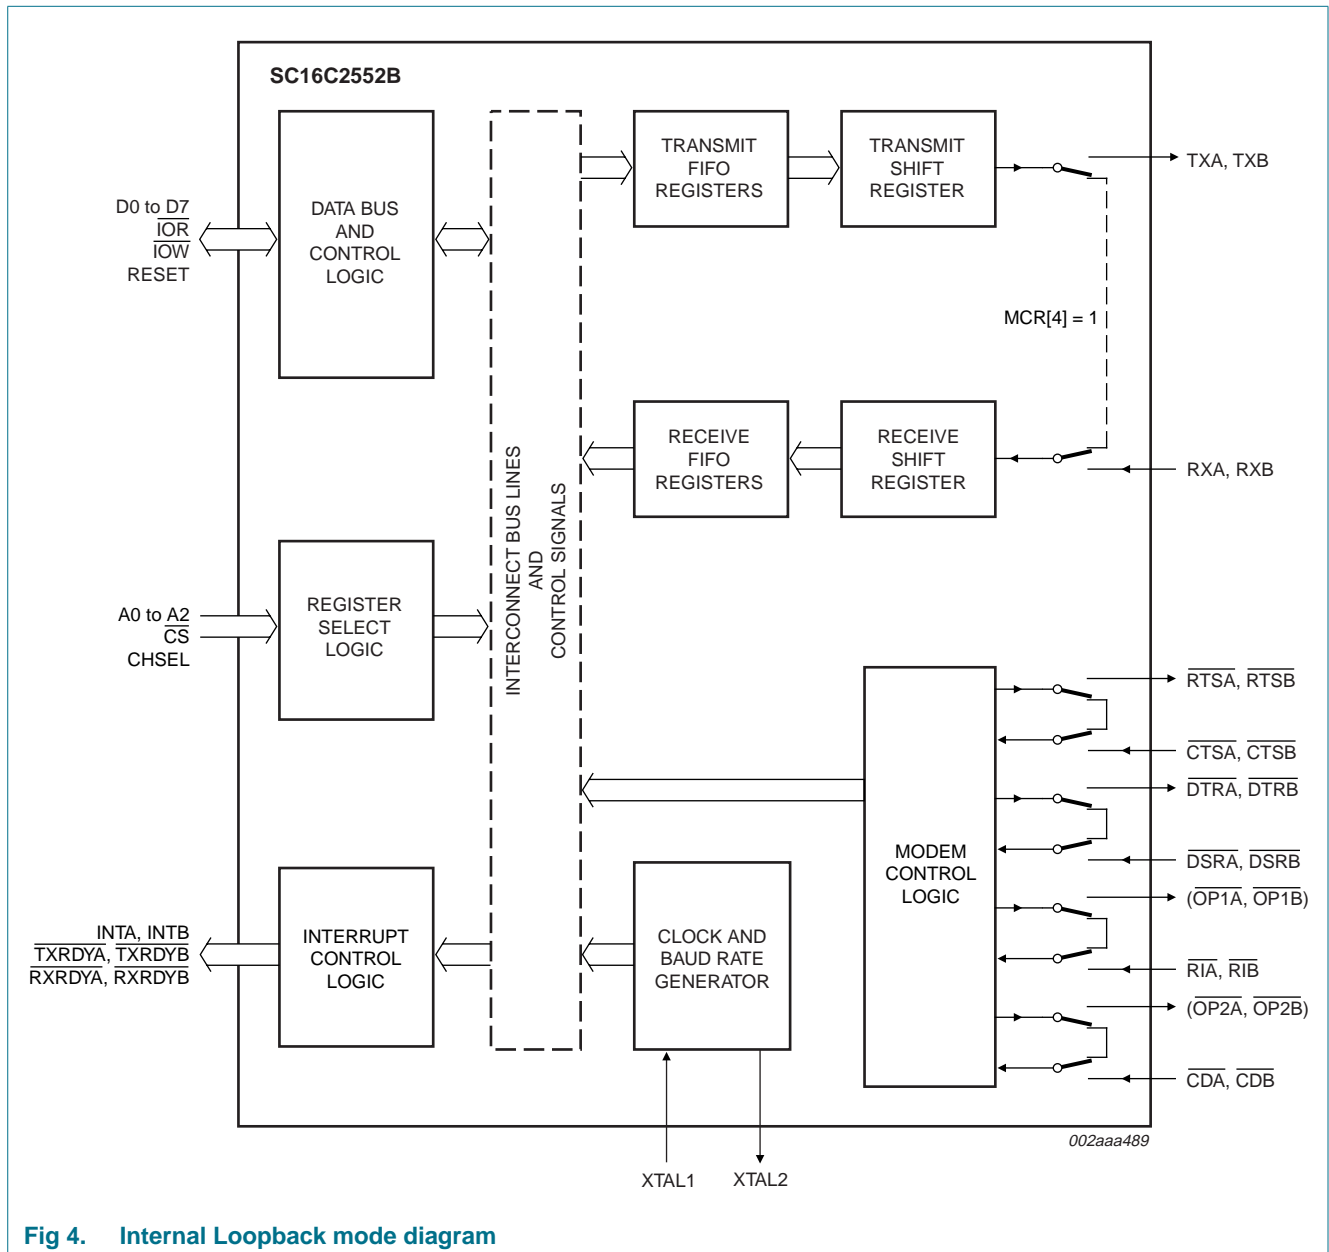

Fig 4. Internal Loopback mode diagram
The internal loopback capability allows on-board diagnostics. In the Loopback mode, the normal modem interface pins are disconnected and reconfigured for loopback internally. MCR[3:0] register bits are used for controlling loopback diagnostic testing. In the Loopback mode, INT enable and MCR[2] in the MCR register (bits 3:2) control the modem $\overline{\text{RI}}$ and $\overline{\text{CD}}$ inputs, respectively. MCR signals $\overline{\text{DTR}}$ (bit 0) and $\overline{\text{RTS}}$ (bit 1) are used to control the modem $\overline{\text{DSR}}$ and $\overline{\text{CTS}}$ inputs, respectively. The transmitter output (TX) and the receiver input (RX) are disconnected from their associated interface pins, and instead are connected together internally (see Figure 4). The $\overline{\text{CTS}}$, $\overline{\text{DSR}}$, $\overline{\text{CD}}$, and $\overline{\text{RI}}$ are disconnected from their normal modem control inputs pins, and instead are connected internally to $\overline{\text{RTS}}$, $\overline{\text{DTR}}$, OP2 and OP1. Loopback test data is entered into the transmit holding register via the user data bus interface, D0 to D7. The transmit UART serializes the data and passes the serial data to the receive UART via the internal loopback connection. The receive UART converts the serial data back into parallel data that is then